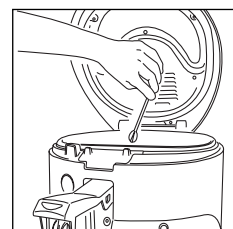

fig. 22
- In order to clean the inside of the drainage hose, use the hose brush supplied (fig. 22).